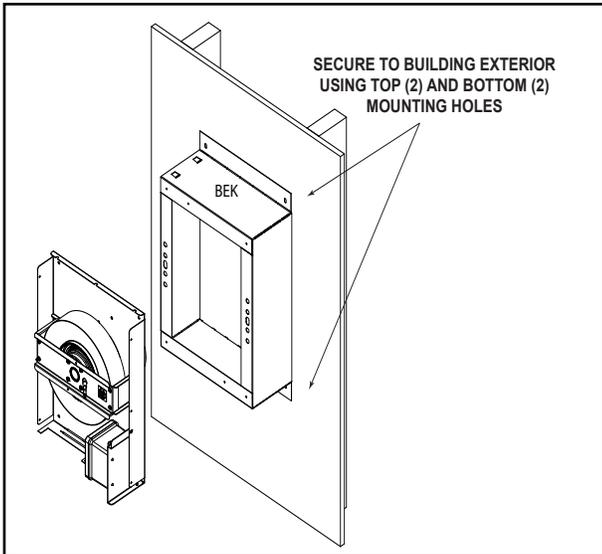
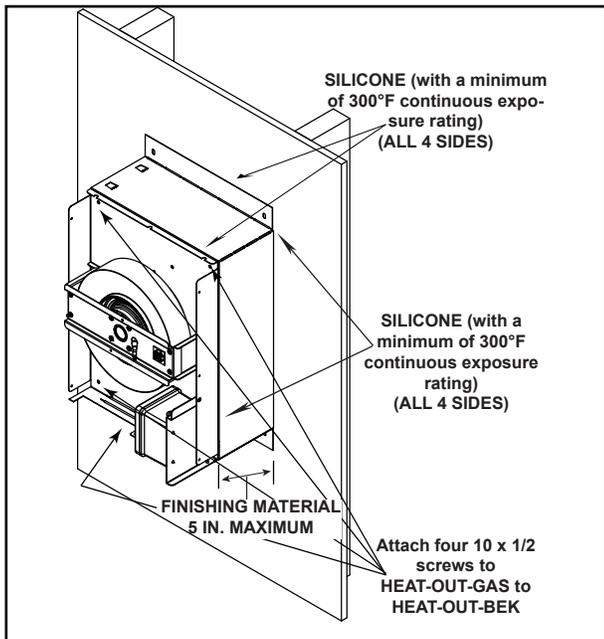

Figure 2.12 HEAT-OUT-GAS Attached to Heat-Out-BEK
Figure 2.13 Silicone Weather Sealing
13. Apply a bead of silicone (with a minimum of 300° F continuous exposure rating) around the entire metal flange of the HEAT-OUT-GAS. See Figure 2.14. Align with HEAT-OUT-BEK as shown in Figure 2.12. Ensure cap is level and square, then secure HEAT-OUT-GAS to Heat-Out-BEK as shown in Figure 2.13.
14. After the HEAT-OUT-GAS has been secured to the HEAT-OUT-BEK, silicone (with a minimum of 300° F continuous exposure rating) should be applied around outer edge of HEAT-OUT-BEK where it meets the building exterior. Silicone (with a minimum of 300° F continuous exposure rating) should also be applied where HEAT-OUT-GAS and HEAT-OUT-BEK meet, as shown in Figure 2.13. If installing with HEAT-OUT-BEK skip to step 17.